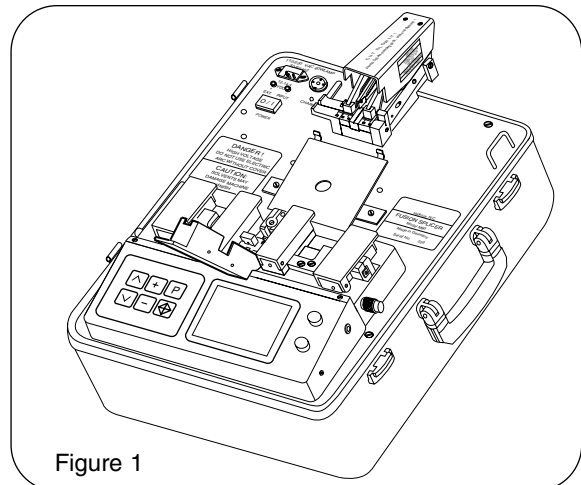

Figure 1
1. Disconnect the splicer from all power sources and open the electrode flap (Figure 1).